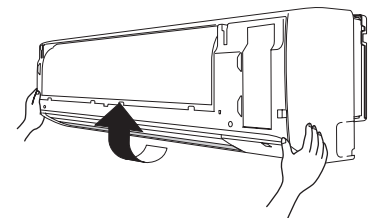

Fig. 1-159
- (6) Lift up the grille in the direction shown by the arrow and pull the grille towards you to remove it. (Fig. 1-159)